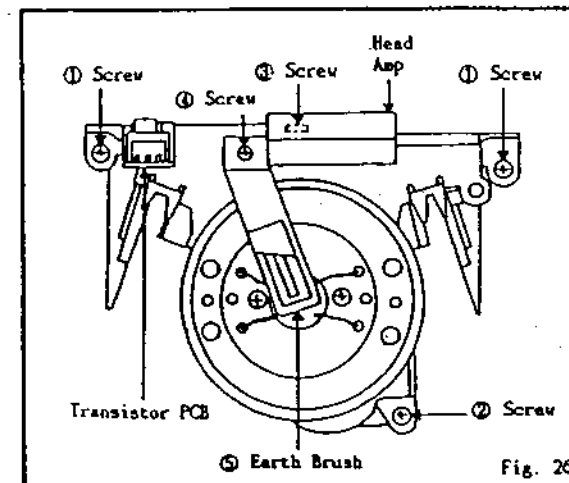

Fig. 26
1. Remove the shield plate on the Head Amp and remove the screw ④ to disconnect the solder for the heater lead.
3. Remove the screw ④ which holds the EARTH BRUSH ⑤.
4. Remove the cylinder unit by taking out the screws ① and ②. (Fig. 26)